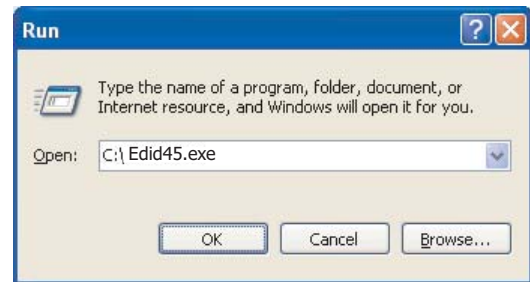

Fig. 7
3. At the submenu, type the letter of your computer's hard disk drive followed by :EDID45 (for example, C:\EDID45, as shown in Fig. 7).